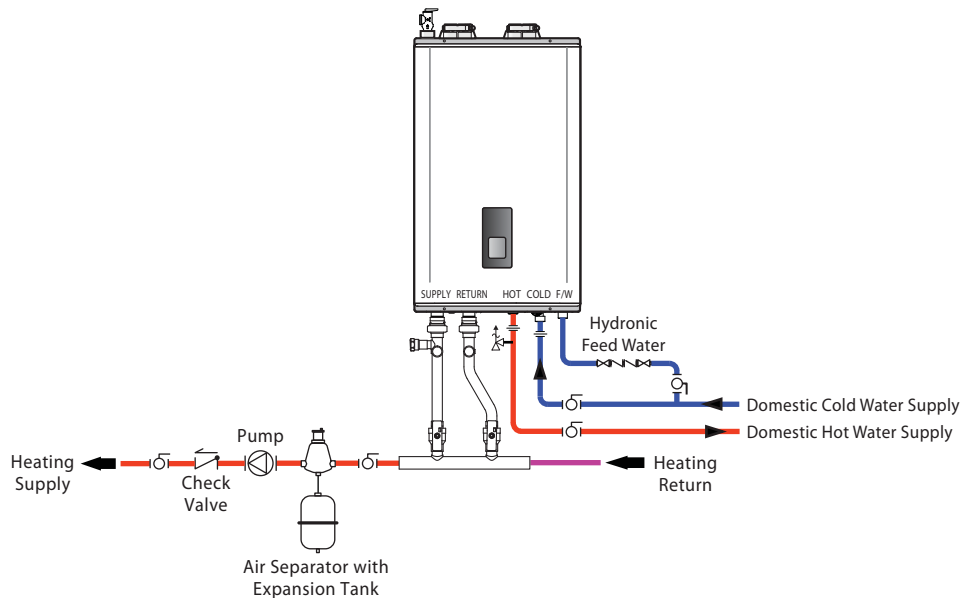

FIGURE 2: Manifold Piping Setup with Accessories
- Install any required accessories such as an air separator, expansion tank, check valve, etc. on the heating supply side as illustrated in **FIGURE 2** below.